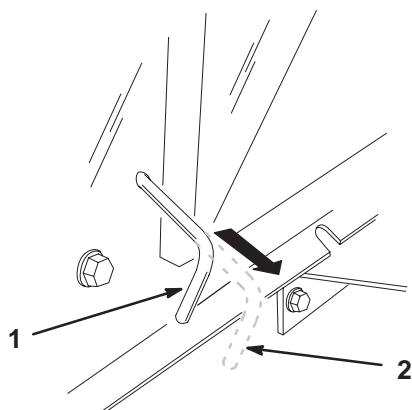

Figure 14
3. Pull the drive control, located at the rear of the machine, out to the Push position and release the parking brake. This disengages the drive system and allows the wheels to turn freely (Fig. 14).
1. Set the parking brake and push the drive control in to the Operate position. This engages the drive system (Fig. 14).